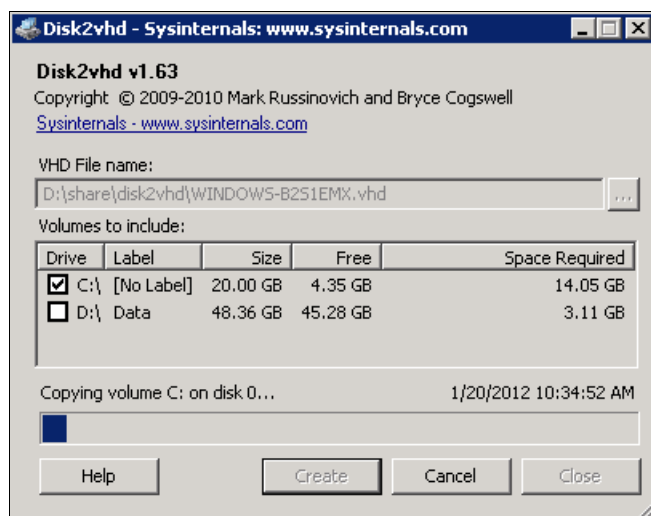

Figure 3-9 Disk2vhd: Creating the VHD file
3. The chosen volumes are converted to the virtual machine disk file, as shown in Figure 3-9.